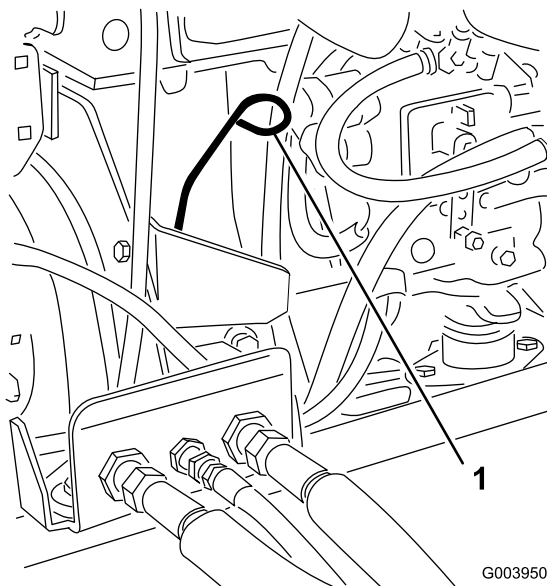

Figure 16
3. Remove the dipstick, wipe it clean, and install it (Figure 16).